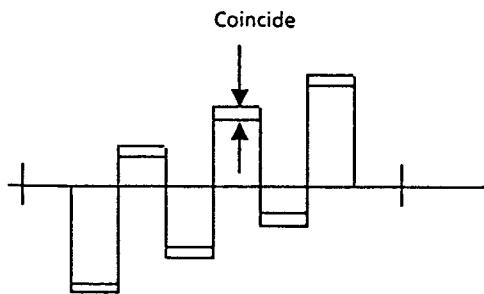

Fig. 4-10
- Keep the connection for step (12).
- Adjust VR10 so that the level of the two B - Y signals coincide each other. (Fig. 4-10)